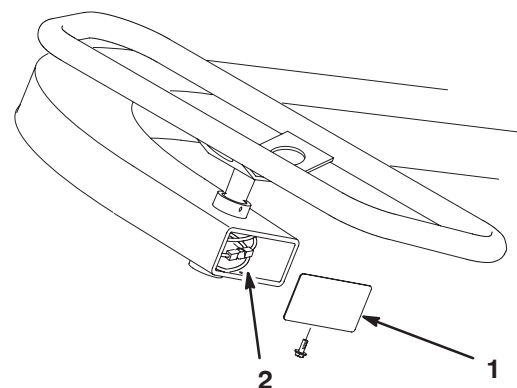

Figure 53
2. If all threads on the cable end have been used, replace the cables. If necessary, service the pulley and steering cable under the steering wheel by removing the cover on the end of the steering column (Fig. 53).